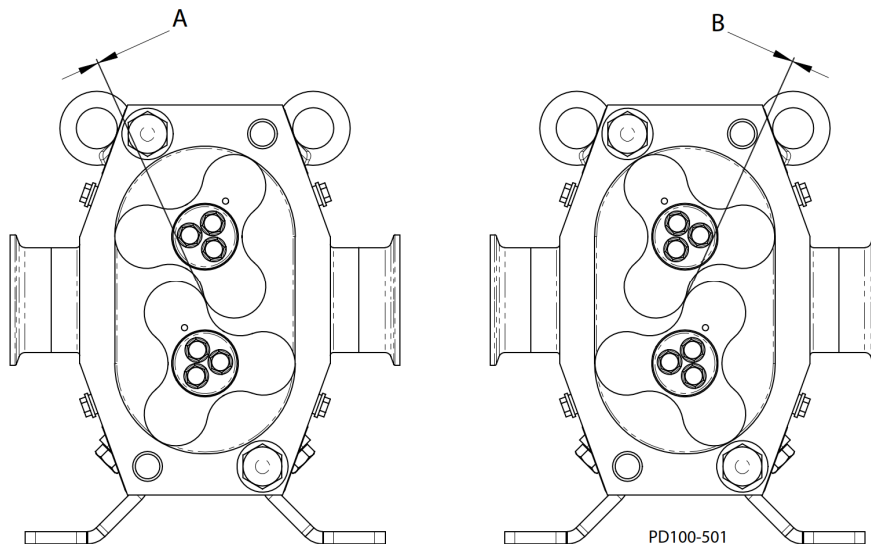

Fig. 63: Rotor Clearance
10. Check the rotor-to-rotor clearance at the positions shown in Figure 63.
11. The "A" and "B" clearance dimensions shown in Figure 63 must be within the ranges specified in Table 11 at all positions. Adjust the gear position on the drive shaft as required.